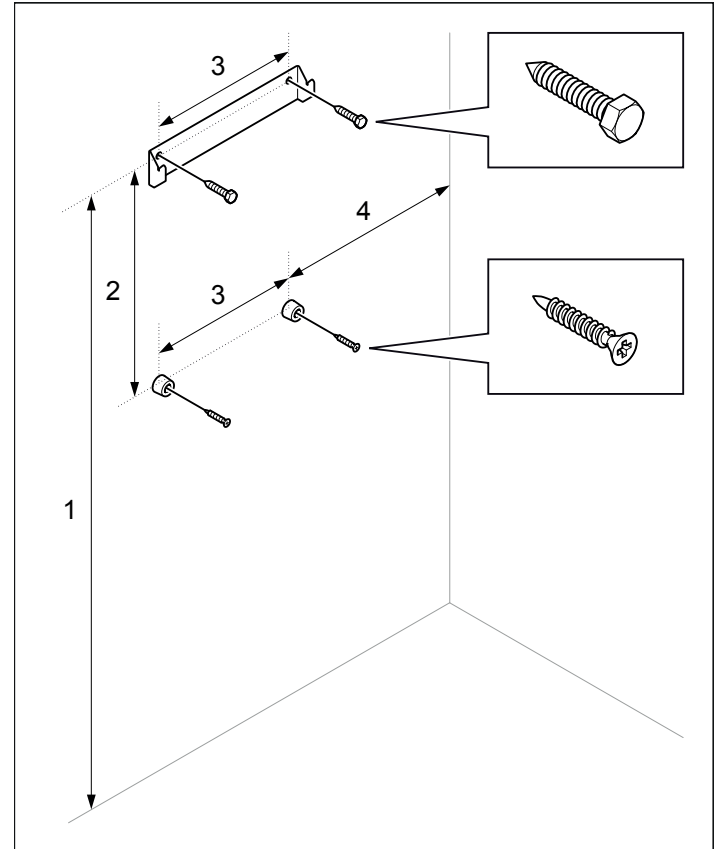

Figure 8: Bracket with screws and spacers
- 1. Attach the bracket and spacers to the wall following the specified dimensioning (see Figure 8).